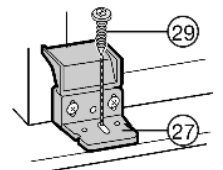

Fig. 24
- Preassemble by passing a long screw *Fig. 24 (29)* through the oblong hole in the plastic bracket *Fig. 24 (27)*.
- Fold down the cover of the plastic bracket *Fig. 24 (27)*.